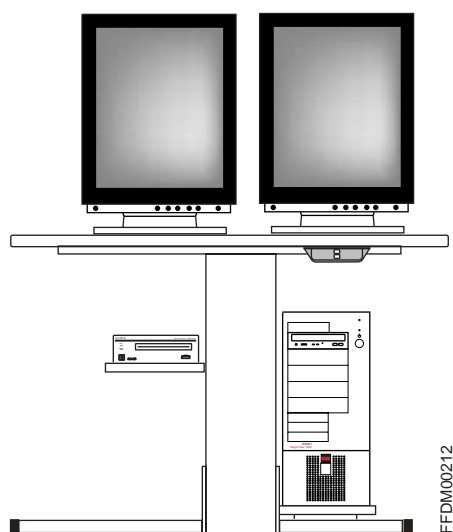

Fig. 6
- Place the computer and MOD drive (option) on the shelf according to Fig. 6.